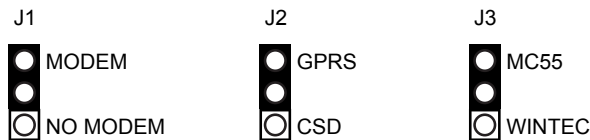

Figure 3.5—GSM modem settings
1. Set jumper J1 on the main board to the modem setting, as shown in Figure 3.5.
2. Set jumper J2 to the desired mode—CSD or GPRS (GPRS is shown in Figure 3.5).
3. Set jumper J3 to MC55, as shown in Figure 3.5.